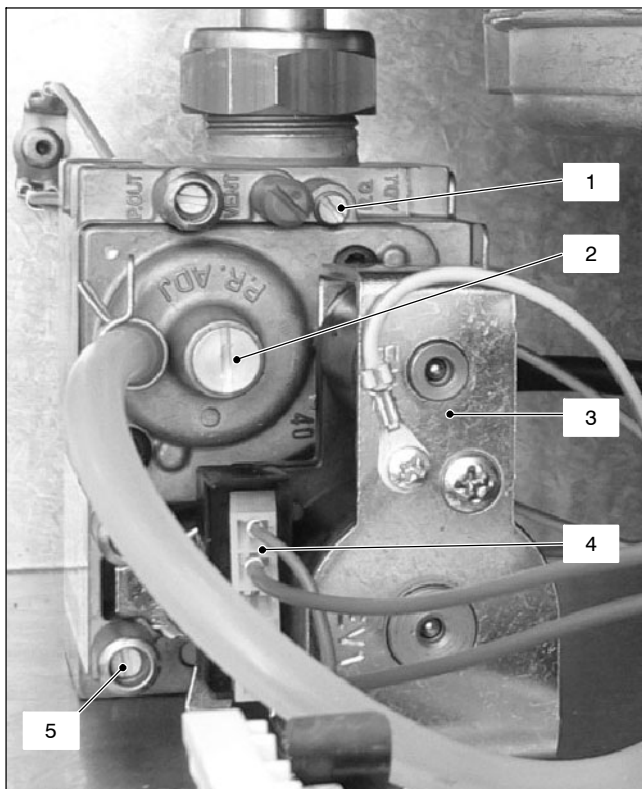

Fig. 8.2
8.2 Description of the parts (Fig. 8.2)
- 3 Loosen the internal screw on the Inlet Pressure Test Point 5 (Fig. 8.2) of the Gas valve and connect a pressure gauge using a suitable hose.
- 10 Disconnect the pressure gauge and close the Inlet Pressure Test Point 5 (Fig. 8.2).
To adjust the CO₂ % value remove the brass plug by unscrewing it and rotate the Allen key screw \varnothing 4 mm (2 – Fig. 8.2) (by rotating it clockwise the CO₂ % increases).
To adjust the CO₂ % value rotate screw (1 – Fig. 8.2) (by rotating it clockwise the CO₂ % decreases).
- 27 After adjustment fit the protective brass plug (2, Fig. 8.2).
- 2 Disconnect the electrical connector 4 (Fig. 8.2).